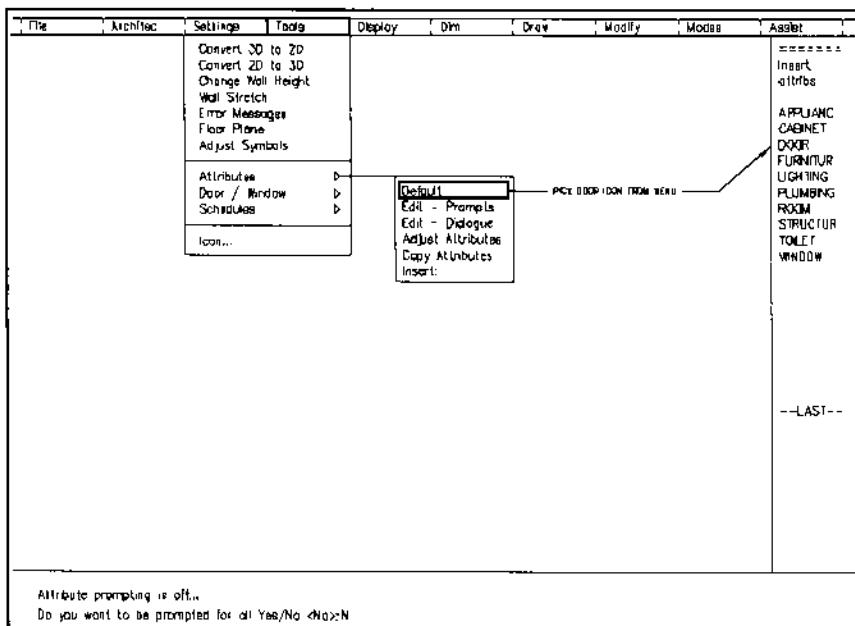

Figure 6.
2. Select Default from Attributes under the Tools menu as shown in Figure 6 to display the Edit Attributes dialog box.